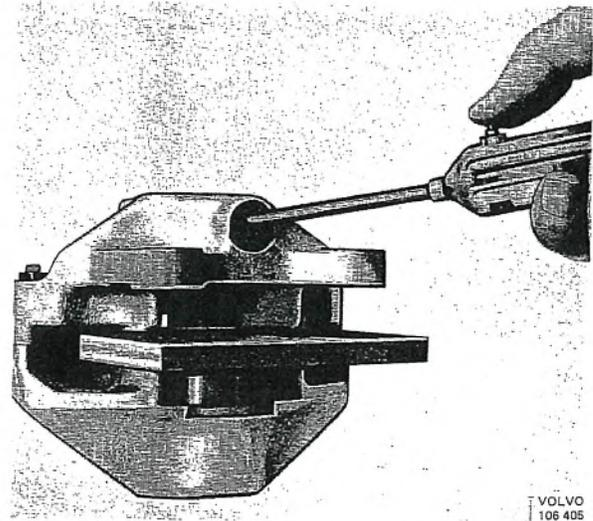

Fig. 5-27. Removing pistons
2. Remove the retaining ring and the rubber dust covers. Place a wooden disc, see Fig. 5-3, between the pistons and press them out towards the disc with the help of an air line, see Fig. 5-27. The pistons can then be easily removed. Lever off the rubber covers.